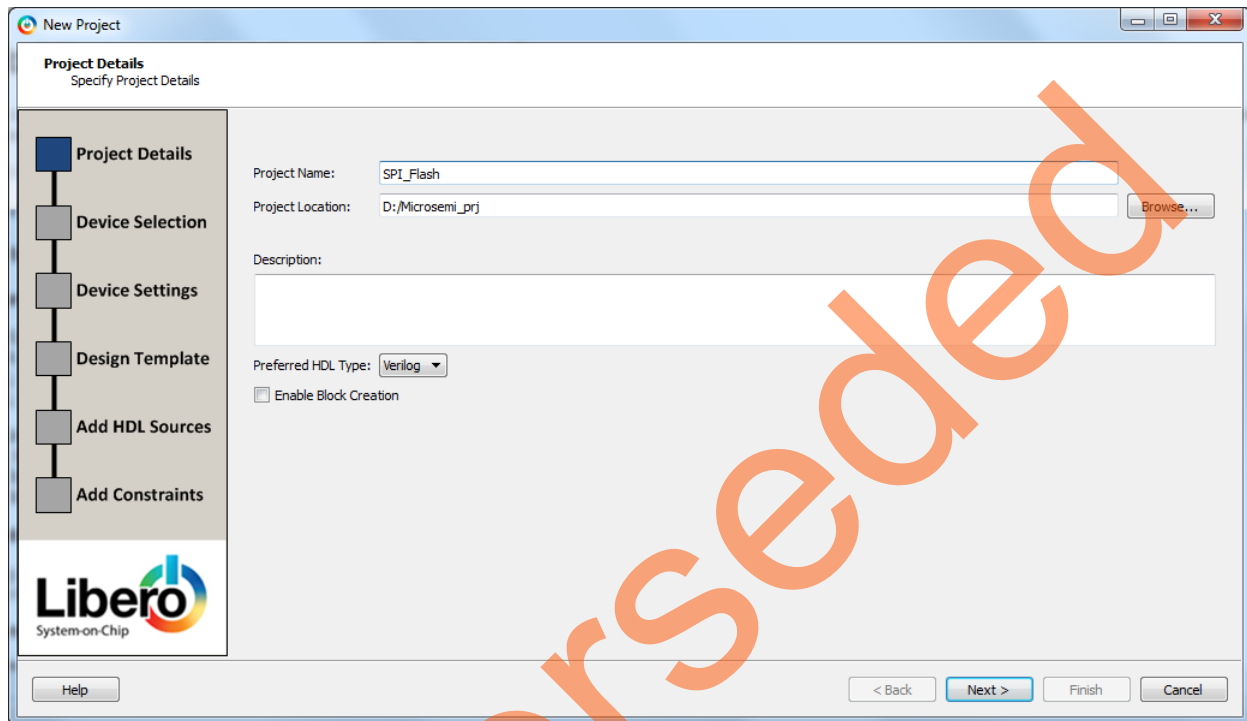

Figure 3 • Project Details Page
3. Enter the following information in the **Project Details** page, as shown in Figure 3.